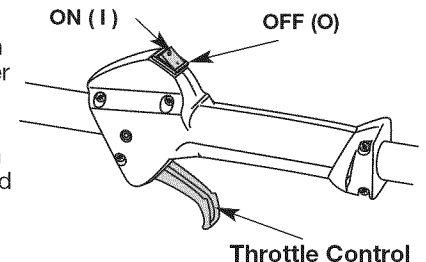

Fig. 6
**NOTE:** There is no need to turn the unit on. The On/Off Stop Control is in the ON (I) position at all times (Fig. 6).
**NOTE:** There is no need to turn the unit on. The On/Off Control is in the ON (I) position at all times (Fig. 6).